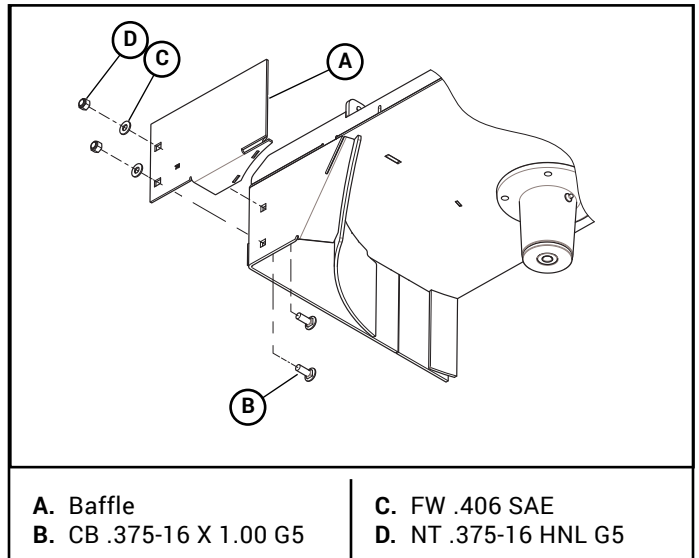

Figure 4-14
7. Remove the blower baffle. Figure 4-14